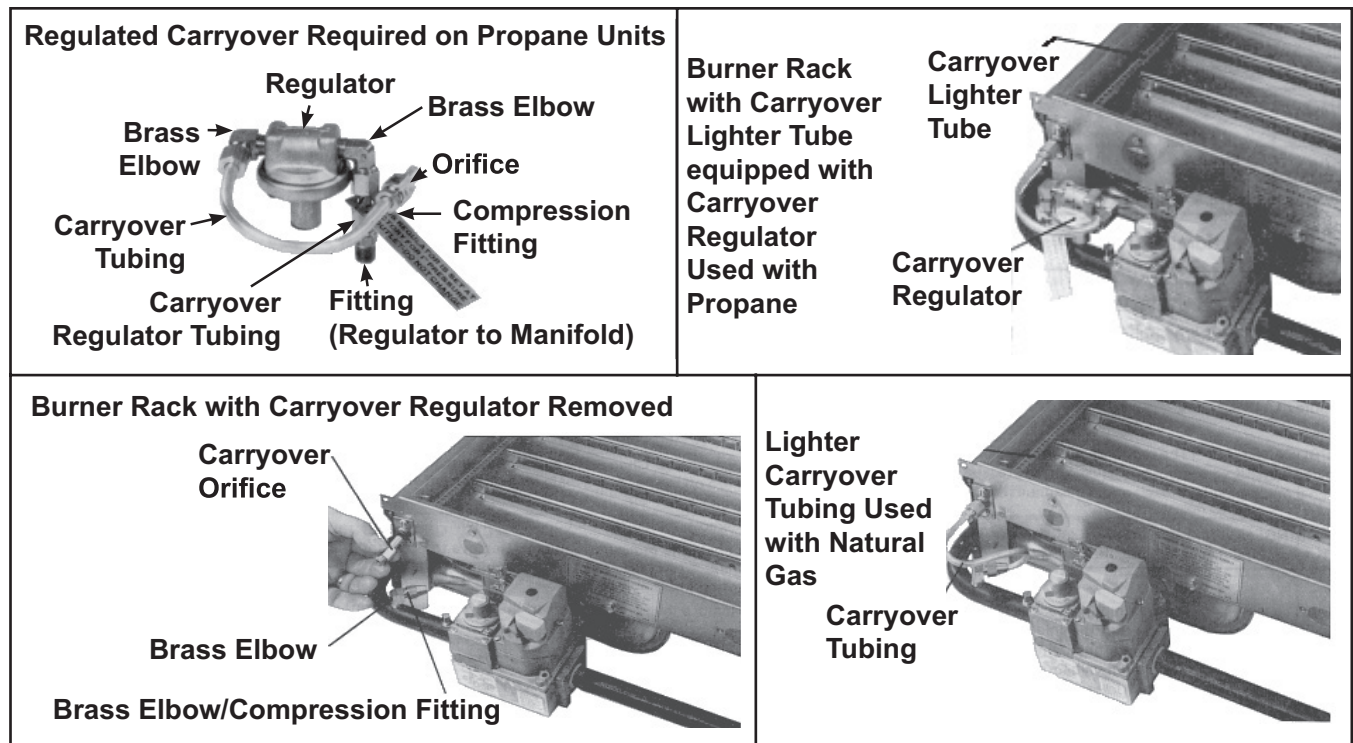

Figure 2. Carryover Components
8. Install carryover components (see Figure 2) as required.